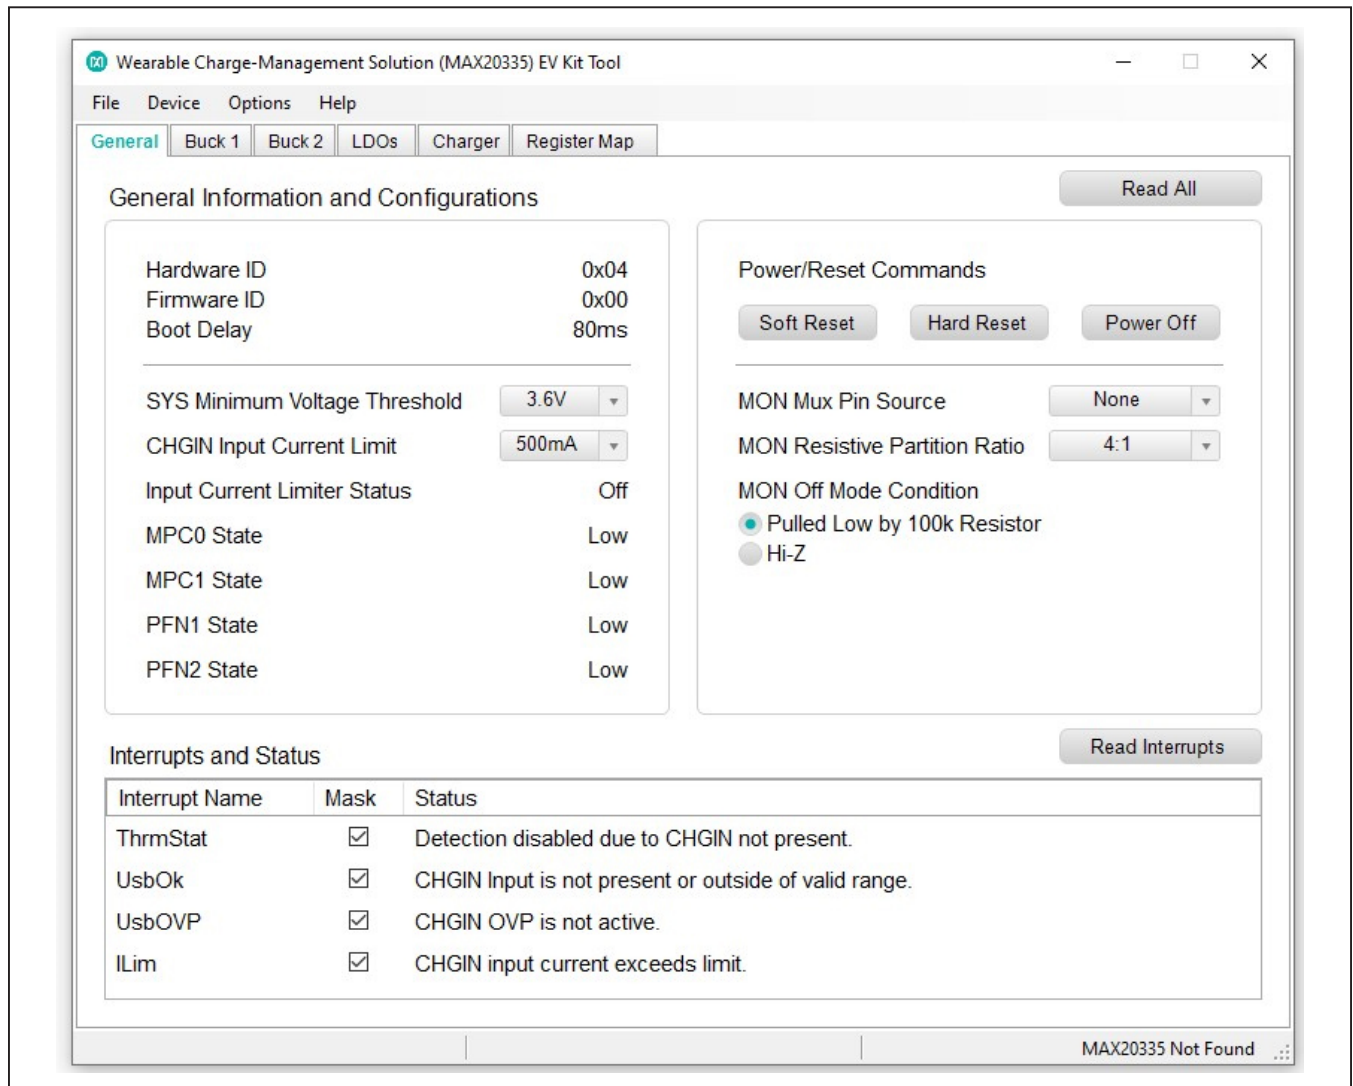

Figure 1. MAX20335 Not Found Status
- 7) On the computer, open the MAX20335 GUI. It should look like Figure 1; the status bar on the bottom displays **MAX20335 Not Found**.